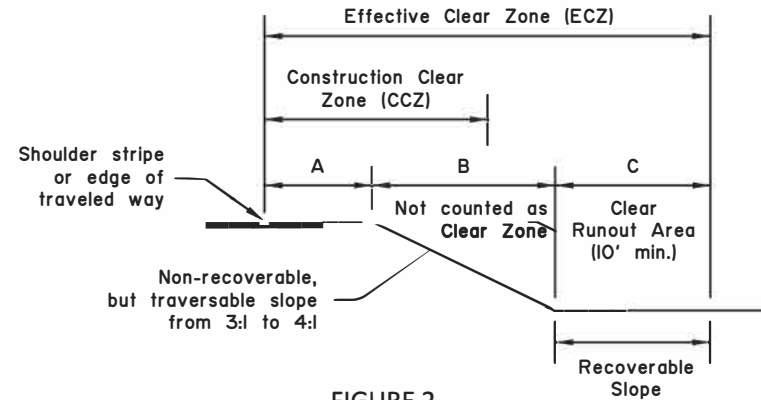

FIGURE 2
2. If CCZ include or ends on a slope of 3:1 to 4:1, use the Effective Clear Zone (ECZ) that extends beyond the bottom of the slope to provide a clear runout area of 10 foot minimum width. The ECZ width must equal or greater than the CCZ width from Table 1. See Figure 2 and verify that A+C ≥ CCA and C ≥ 10 feet.